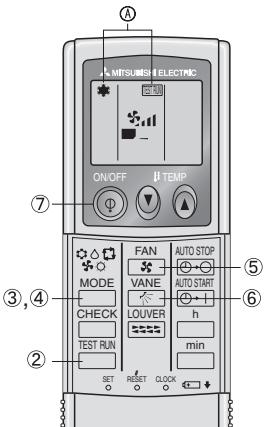

Fig. 7-2
7.2.2. Using wireless remote controller (Fig. 7-2)
- ① Turn on the power to the unit at least 12 hours before the test run.
- ② Press the TEST RUN button twice continuously. (Start this operation from the status of remote controller display turned off.)
- ③ Press the MODE (△ ○ ▲ ○ △) button to activate COOL ○ mode, then check whether cool air is blown out from the unit.
- ④ Press the MODE (△ ○ ▲ ○ △) button to activate HEAT ○ mode, then check whether warm air is blown out from the unit.
- ⑤ Press the FAN button and check whether fan speed changes.
- ⑥ Press the VANE button and check whether the auto vane operates properly.
- ⑦ Press the ON/OFF button to stop the test run.